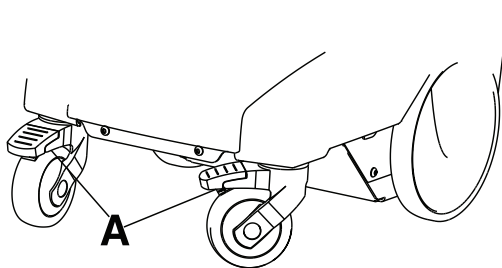

Figure 1-6: Wheel locks
To apply the wheel locks, push down (A) (Figure 1-6 on page 1-22) with your foot.
To release the wheel locks, pull up (A) (Figure 1-6 on page 1-22) with your foot.